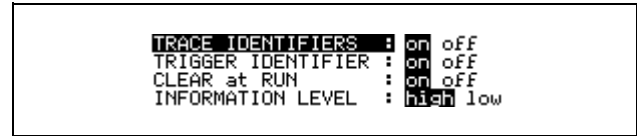

Figure 6-13. Startup Menu Window
1. From the User Options menu, press  (MORE OPTIONS), and open the STARTUP MENU window (see Figure 6-13).